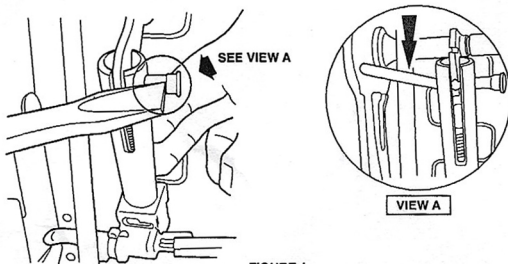

FIGURE 1
- Remove front driver or passenger seat. Refer to WSM, Section 501-10. Remove the four (4) seat module mounting plate screws and position aside.
- Remove and discard the clevis pin. (Refer to Figure 1 and View A).